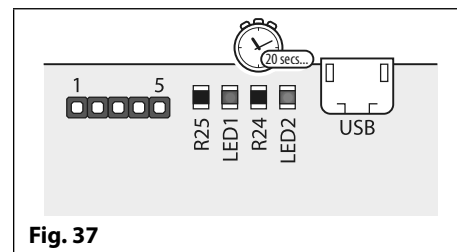

Fig. 37
4. After approximately 12 seconds both the red LED (LED1) and the green LED (LED2) will switch ON for approximately 20 seconds or so while the GSM module resets back to factory default, as shown in **Fig.37**;